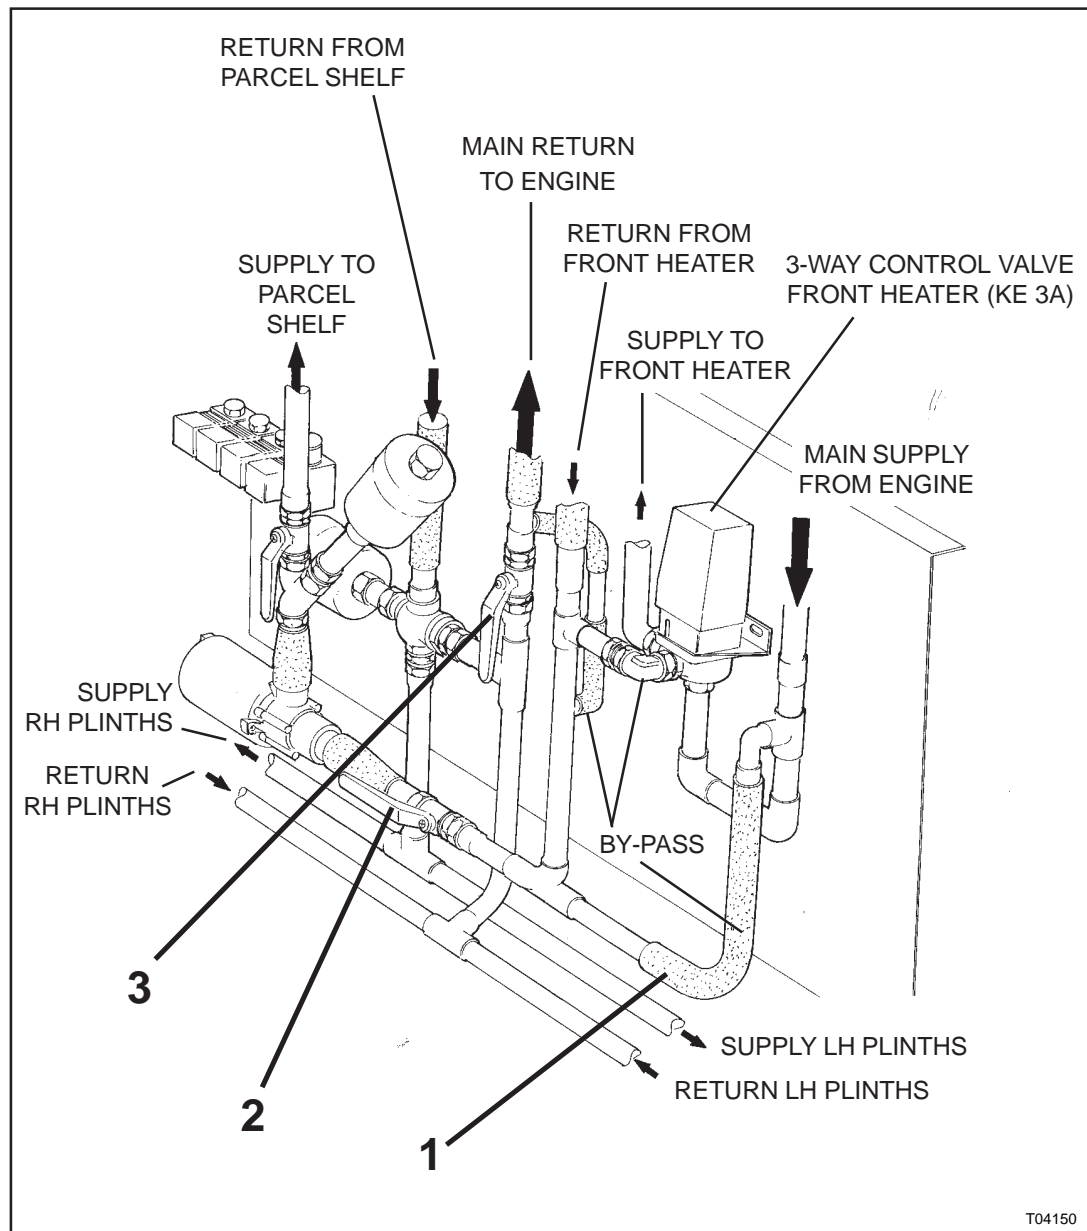

Figure 2: Heating system valve and pump panel. Engine main supply and return valves in the "open" position.
6. At the back of the luggage compartment, open the access door to the heating system valve and pump panel. Close the ball valves in the engine main supply (2, Figure 2) and return lines (3, Figure 2).
8. Undo the lower hose clamp of the engine main supply hose beneath the water valve (1, Figure 2). Remove the hose from its fitting carefully and allow coolant to drain.
2. *When the valve is closed, the port in the valve cylinder should face the by-pass port (see Figure 2).*
1. With the lower hose of the engine main supply line refitted, and the hose clamp properly torqued, open the ball valves in the engine main supply (2, Figure 2) and return lines (3, Figure 2). Open the gate valves.